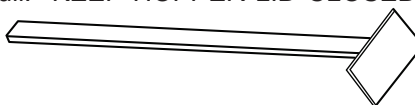

FIGURE 21
PANEL CONTROLS (SEE FIGURE 21)
- The green light located above the On/Off button (in the On/Off box) will flash during the ignition start-up period. (See figure 21)
- While the stove’s auger system is feeding pellets the green light (in the “Fuel Feed” box) will be on. (See figure 21)